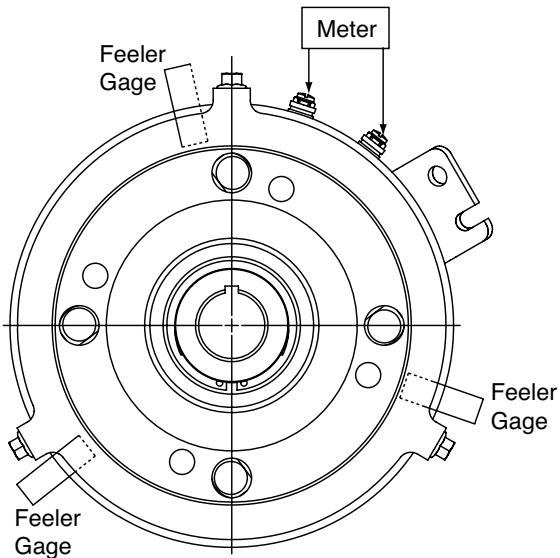

Figure 14
2. Loosen but do not remove the three brake mounting screws. Insert a 0.015" feeler gauge or equivalent thickness shim stock at each screw location being careful to locate the gauge between the armature and brake ring. (Figure 14 and 15)
4. Connect meter lead wires to the terminals of the clutch (Figure 14)